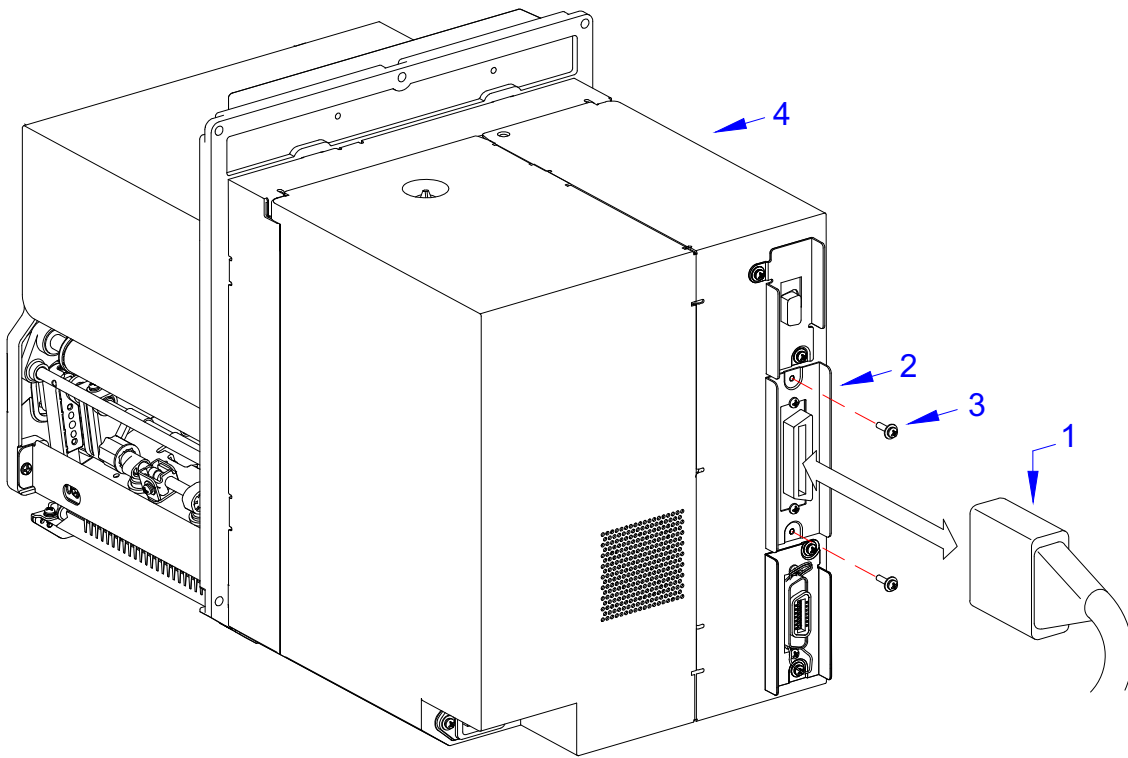

Figure 6-4, Interface Board Replacement
2. Disconnect interface cable (1, Figure 6-4) from defective interface board (2).
3. Remove two screws (3) securing defective interface board (2) to printer (4).
4. Insert replacement interface board (2) into printer (4) and secure using two screws (3).
5. Connect interface cable (1).